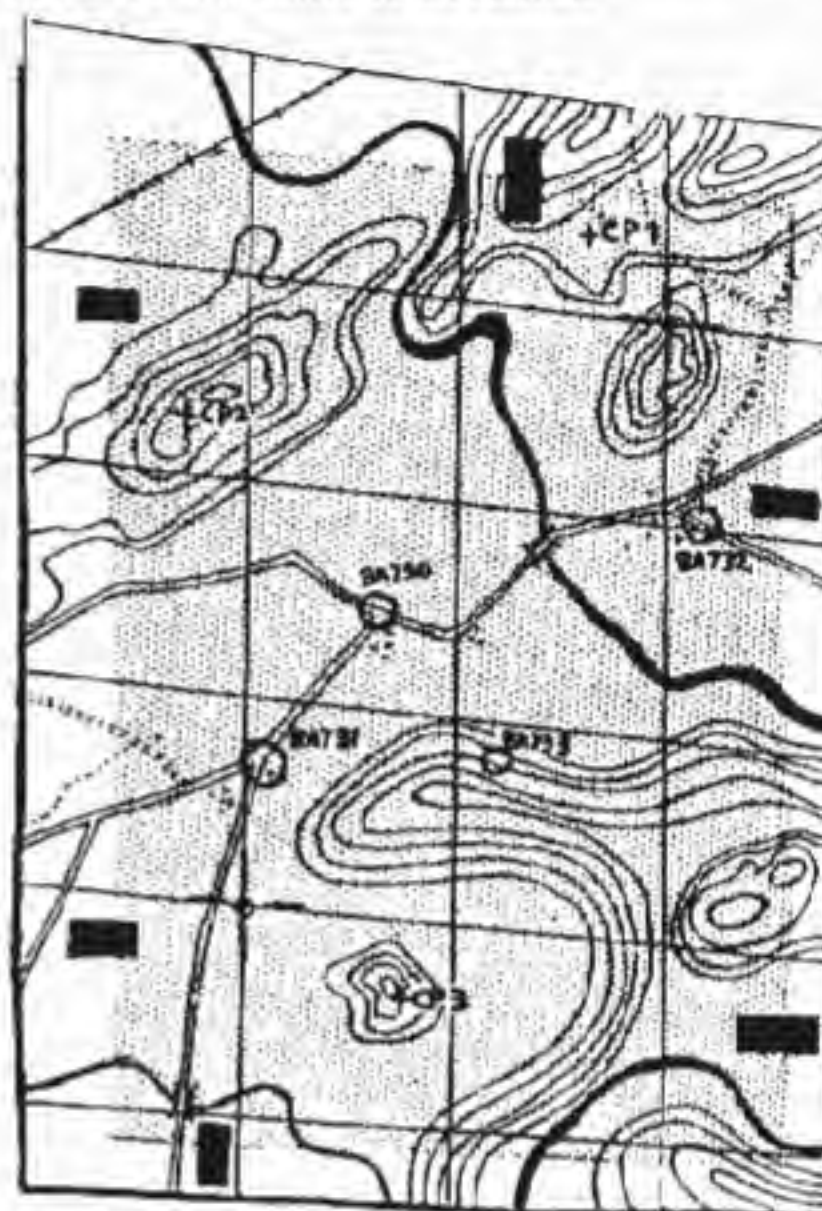

Figure 3
3. **CHECKPOINT CHART** (Figure 3) - If you are from the grease pencil-acetate "school" and are working for a commander who delights in controlling movements by use of checkpoints, you are in for trouble if your grease pencil markings become smeared or obliterated. To avoid this, fasten cloudy acetate (rough side up) to your map with small strips of scotch tape; then place your information on the acetate with a soft lead pencil. The acetate may be destroyed by fire if compromise is threatened.